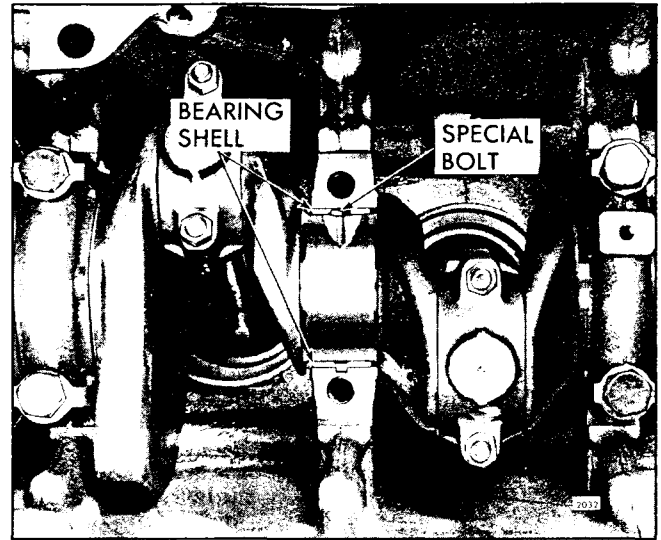

Fig. 4 - Removing Main Bearing Upper Shell (Except Rear Main) - Crankshaft in Place
- a. To remove all except the rear main bearing shell, insert a 1/4" x 3/4" bolt, with a 1/2" diameter and 1/16" thick head (made from a standard bolt), into the crankshaft journal oil hole, then revolve the shaft to the right (clockwise) and roll the bearing shell out of position. The head of the bolt should not extend beyond the outside diameter of the shell (Fig. 4).